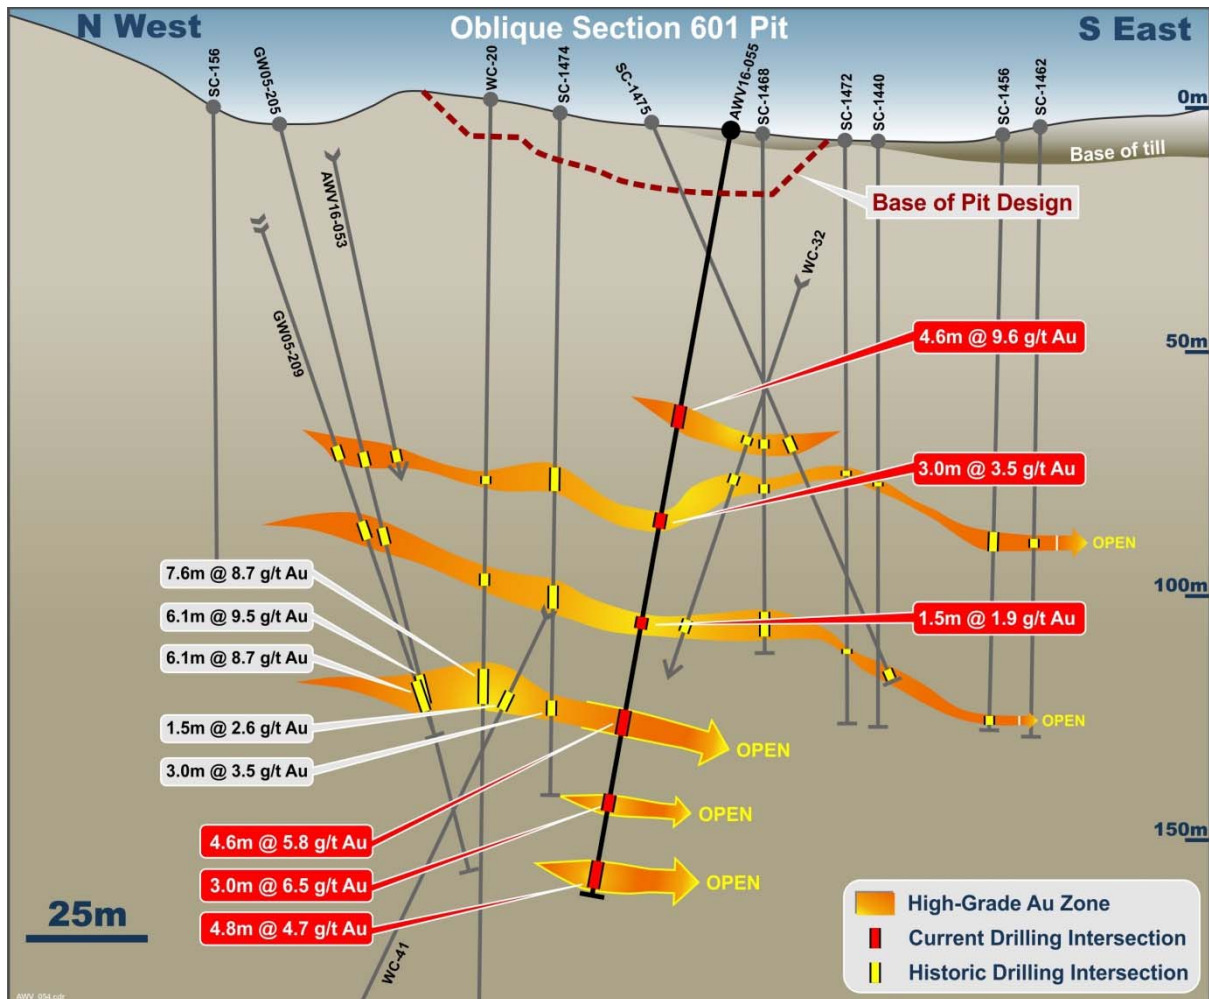

Figure 1: Cross-section through South Sammy (601 Zone) oriented north-west to south-east
For the South Sammy (601) holes, AWV16-055 passed through six mineralised horizons (Figure 1). The shallowest intersection of **4.6m @ 9.6g/t Au** has extended a known mineralised horizon a short distance with high-grade result. More importantly, the three deepest intersections (Table 1) extend or are outside known mineralised horizons and have potential to increase the current 601 resource. The final hole of the South Sammy program for 2016 is currently in progress and aims to test this target area.